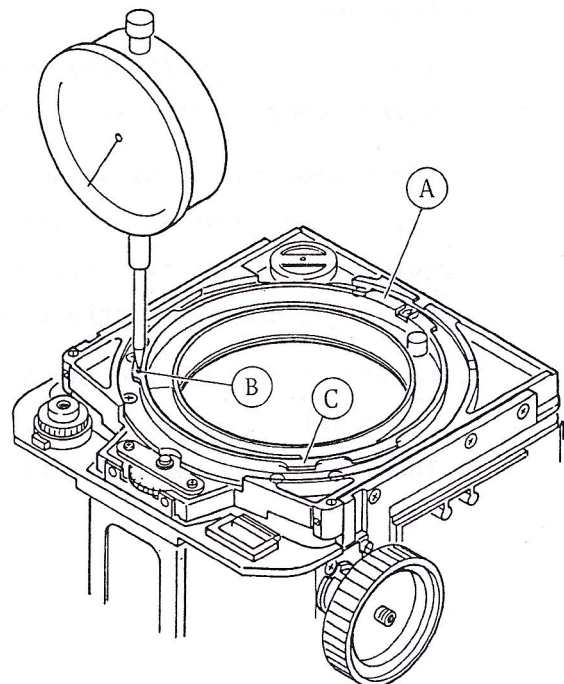

Fig. 107
4. Measure three points (A) , (B) and (C) on the bayonet ring with the dial gauge. (Fig. 107)